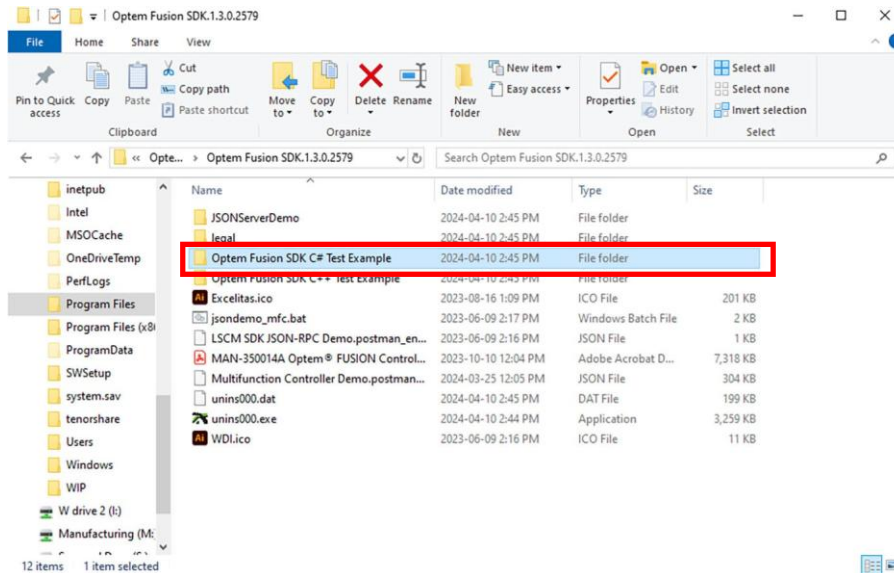

Figure 49 C# Test Example Folder Location
1. Locate the C# test example folder (outlined in red in Figure 49), in the C:\Program Files\WdiDevice\Optem Fusion\Optem Fusion SDK.x.x.x.xxxx folder.